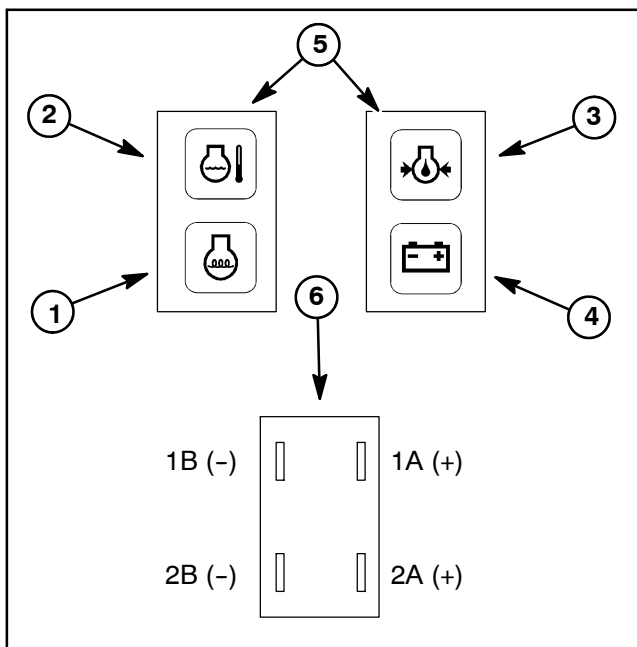

Figure 24
1. Apply 12 VDC to terminals 1A and 2A (Fig. 24).
2. Ground terminals 1B and 2B (Fig. 24).